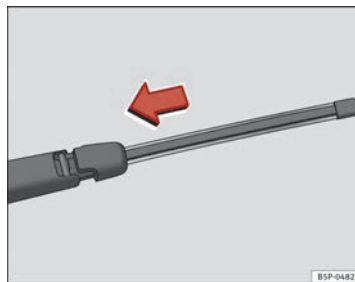

Fig. 140 Fitting the rear window wiper blade ▶
- Place the blade as shown in the → fig. 140 and slide the adapter along until it engages.